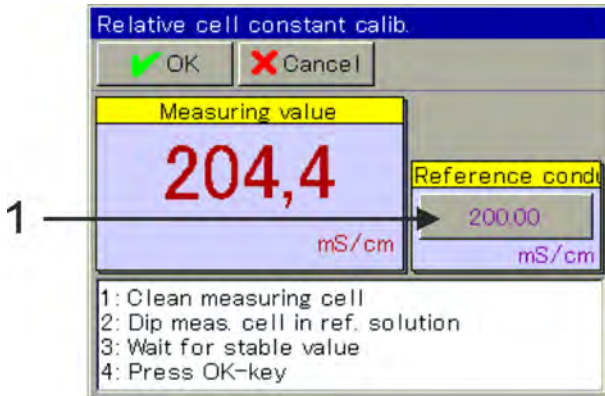

Fig. 70: To change the reference conductivity, push the button (1).
If necessary, adjust the value for the reference conductivity (see Fig. 70, item 1) to the simulation value of the selected resistance.
Set the reference conductivity to 5000 uS/cm (with probe 1024xxx blue) / 4530 uS/cm (with probe 2552xx white) (see Fig. 70, item 1).